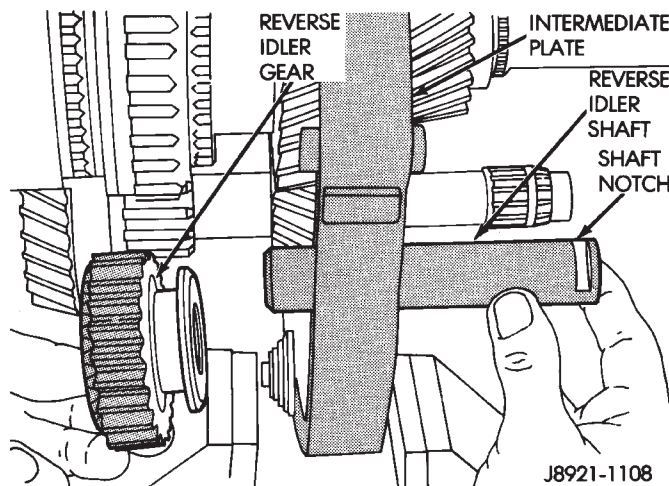
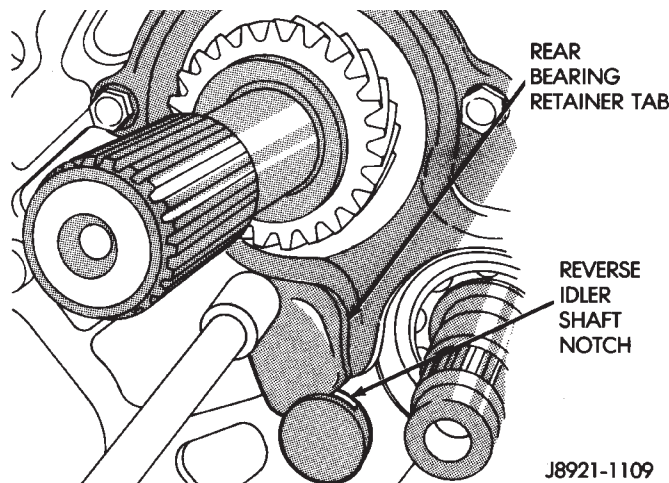

Fig. 92 Install Reverse Idler Gear And Shaft
Fig. 93 Install Output Shaft Rear Bearing Retainer
(22) Install the fifth gear shift rail into the intermediate plate.
(23) Install reverse idler gear and idler gear shaft (Fig. 92). Verify that the notch in the idler shaft is to the rear of the transmission.
(24) Position output shaft rear bearing retainer on intermediate plate and into reverse idler shaft notch.
(25) Install new bolts to hold retainer to intermediate plate (Fig. 93).